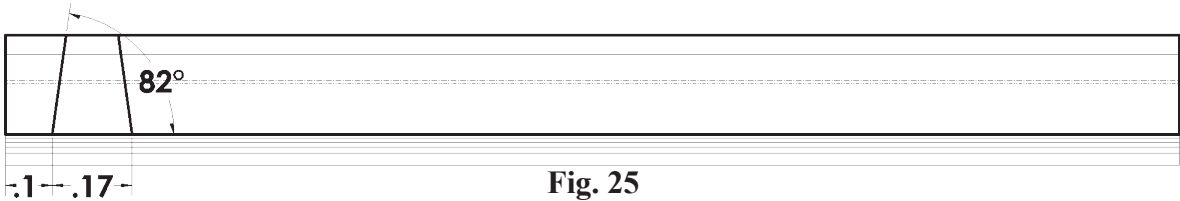

Fig. 25
Step 10. Click **Smart Dimension**  (S) on the Sketch toolbar.
Step 11. Add dimensions, **Fig. 25**.